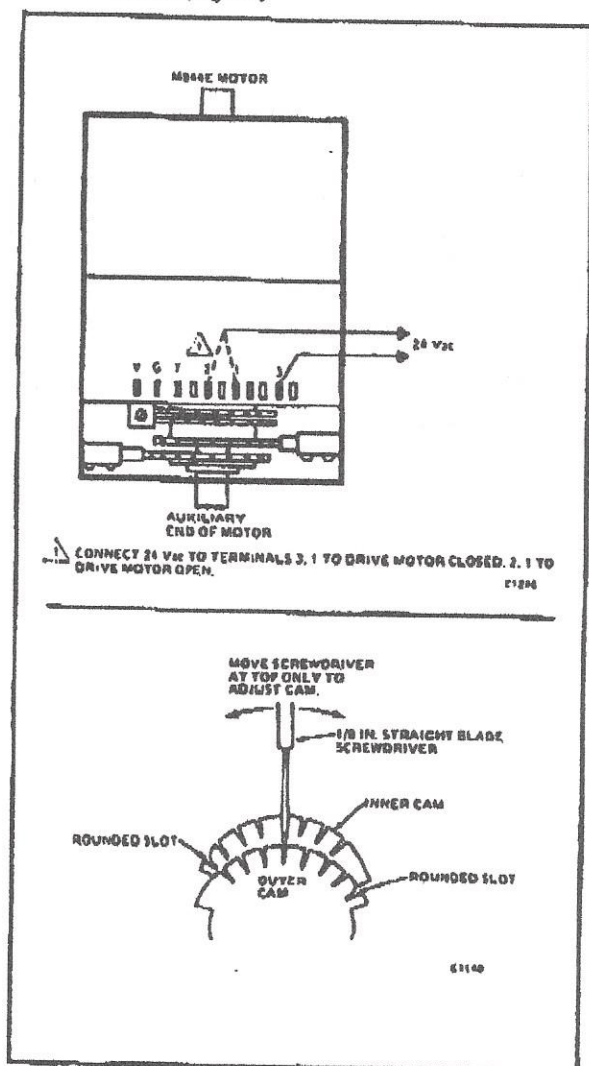
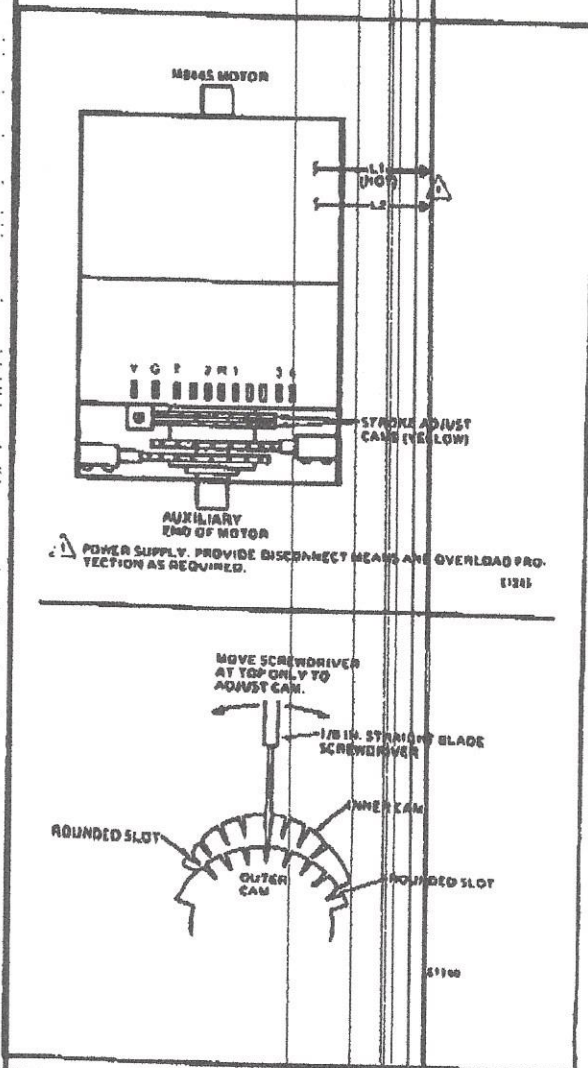

FIG. 15—STROKE ADJUSTMENT SETUP FOR M944E.
FIG. 16—STROKE ADJUSTMENT SETUP FOR M944S.
# STROKE SETTING PROCEDURE— M944E,S (Figs. 15, 16)
3. Connect M944E as shown in Fig. 15; connect M944S as shown in Fig. 16.
M944E—Connect 24 Vac to motor terminals 2 and 3 to drive motor open, or to terminals 1 and 3 to drive motor closed (Fig. 15).
M944S—Connect jumper from R to 2 to drive motor open, or from terminals R to 1 to drive motor closed (Fig. 16).